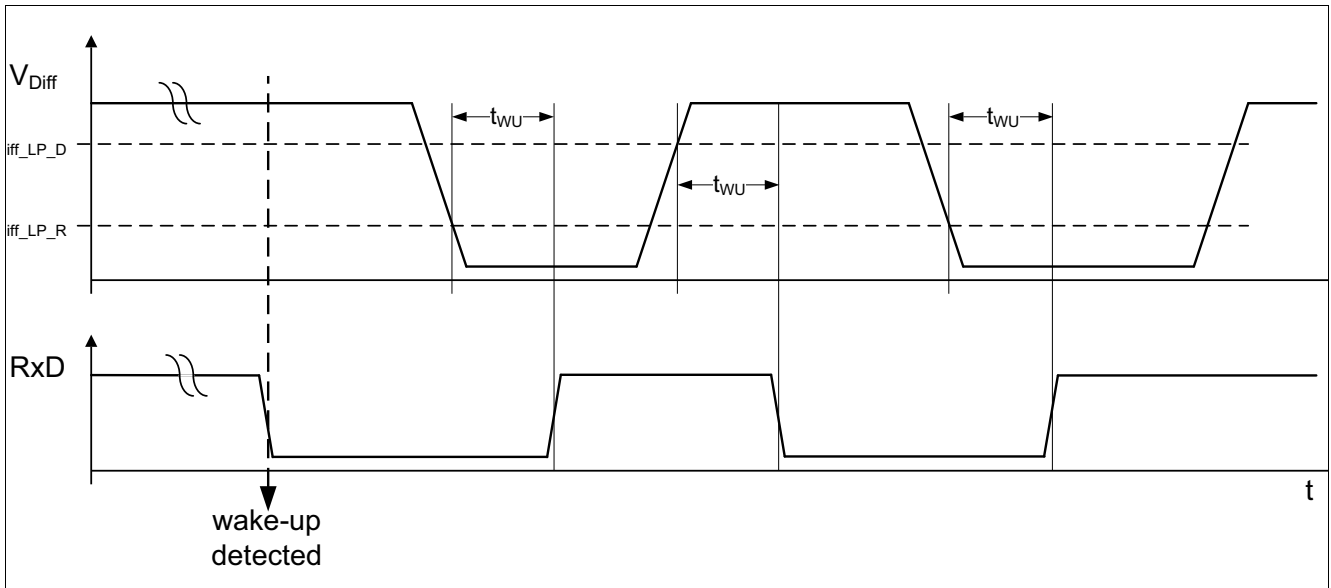

Figure 7 RxD signal after wake-up detection
- The low-power receiver is enabled and monitors the HS CAN bus for a valid wake-up pattern (WUP). The RxD output pin indicates the detection of a valid wake-up pattern (Chapter 5.4). As long as no wake-up event is detected, the default of the RxD output is "high". After detecting a wake-up, the RxD follows the bus with a certain delay (see Figure 7)
After the device detects a wake-up event the RxD output follows the CANH/CANL input pins. Dominant and recessive signals are indicated on the RxD output as "high" and "low" with the delay of  $t_{WU}$  as long their pulse width exceeds the filter time  $t_{Filter}$  (see also Figure 7).